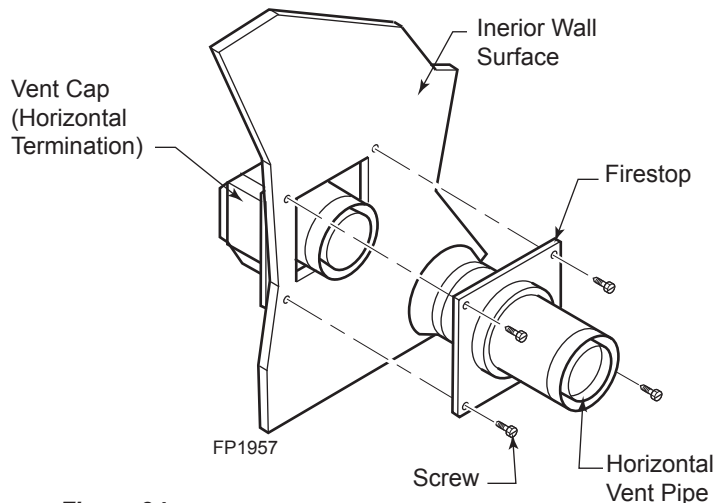

**Figure 22 -
5. Apply a bead of non-hardening mastic around the outside edge of vent cap. Position the vent cap in the center of hole on the exterior wall with the word "UP" on the vent cap facing up. Insure proper clearance of 1" to combustibles is maintained. Attach the vent cap with four (4) wood screws supplied. *Figure 22*